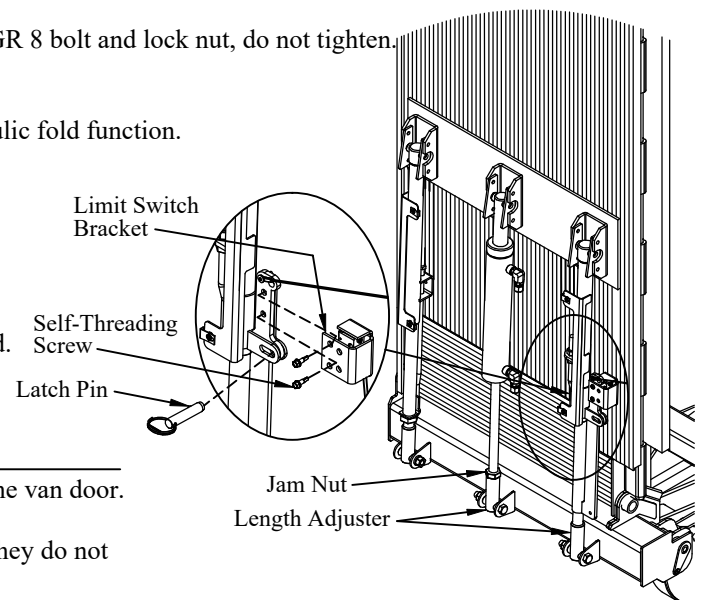

Figure 21: Platform latch and adjustment.
4. **Install** the limit switch bracket on the passenger side support arm with two (2) #12 self-threading screws. See Figure 21 for bracket shipping location. Make sure that the limit switch is not in the pushed position.
3. **Support** the platform to keep it from falling or hitting the van in the next steps (Figure 21).